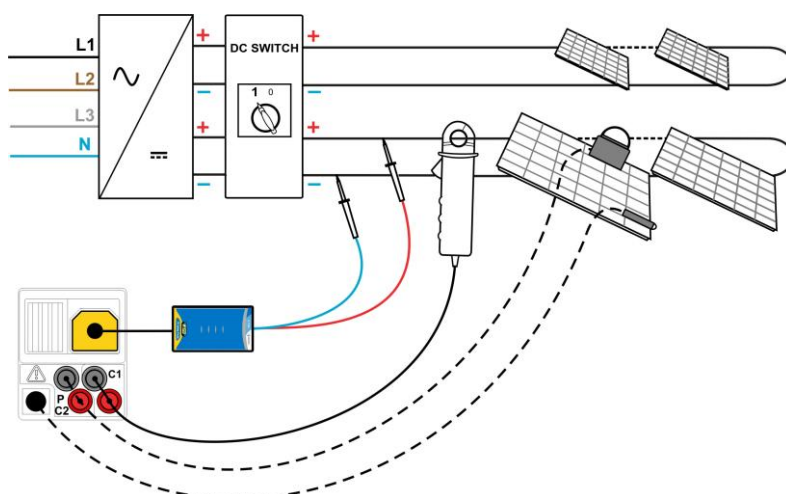

Figure 6.15: PV panel test
- ❑ **Connect** the PV system to be tested (see figure 6.15).